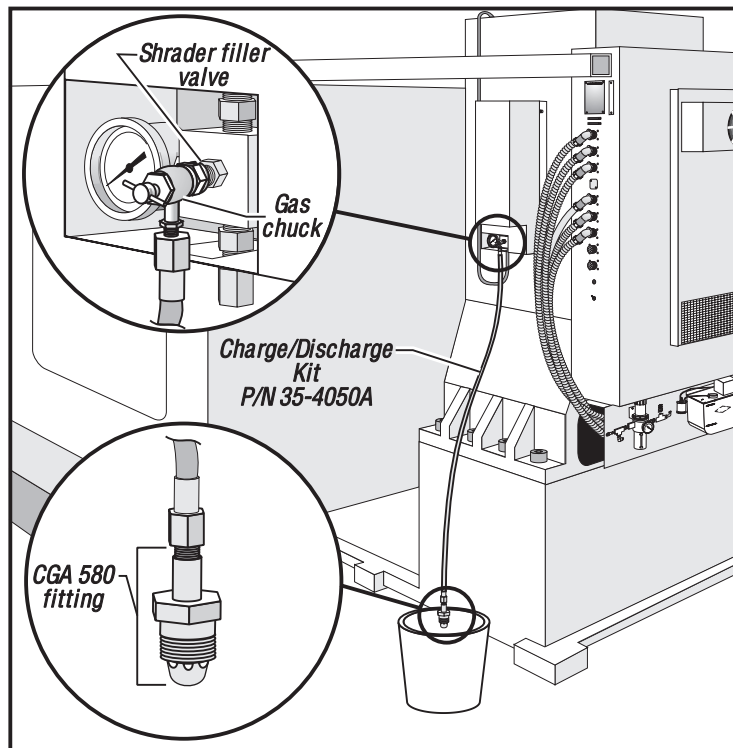

Figure 15-1. Hydraulic counterbalance charge/discharge kit (shown in place to discharge system).
4. Ensure T-handle of the gas chuck is turned completely counterclockwise. Attach charge/discharge kit by tightening gas chuck to the Schrader valve finger tight, then wrench lightly to tighten (see Figure 15-1).